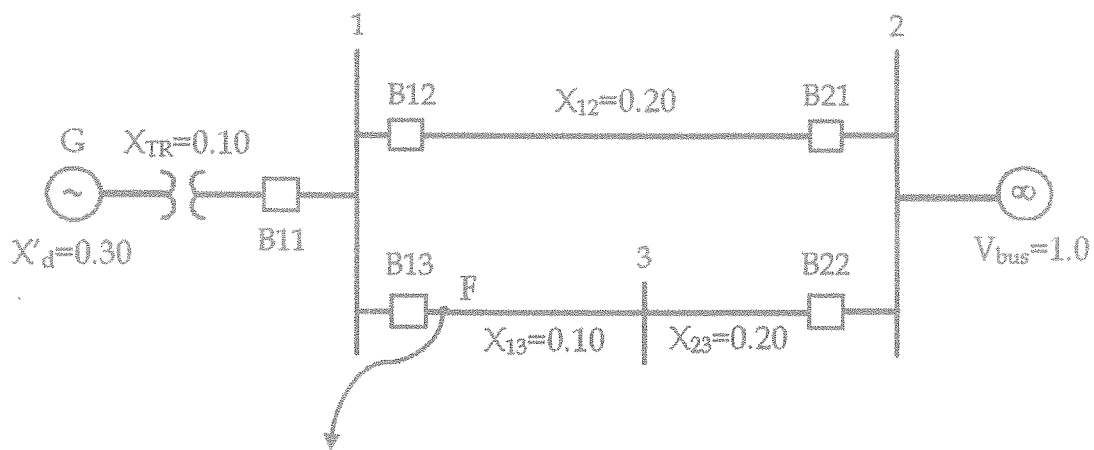

Figure Q3
- c) Figure Q3 shows a single line diagram of a three phase 60 Hz synchronous generator, connected through parallel transmission lines to an infinite bus. All reactances are given in per-unit on a common system base. The infinite bus receives 1.0 per unit real power at 0.95 p.f. lagging. A temporary three-phase to-ground bolted short circuit occurs on line 1-3 at bus 1, shown as point F and the fault is extinguished at the critical clearing angle (consider there is no power transfer during the fault). Due to a relay misoperation, all circuit breakers remain closed. The inertia constant of the generator is 3.0 per-unit-seconds on the system base. Assume mechanical power input  $P_m$  remains constant throughout the disturbance. Also assume  $\omega_{syn}=1$  per unit in the swing equation.